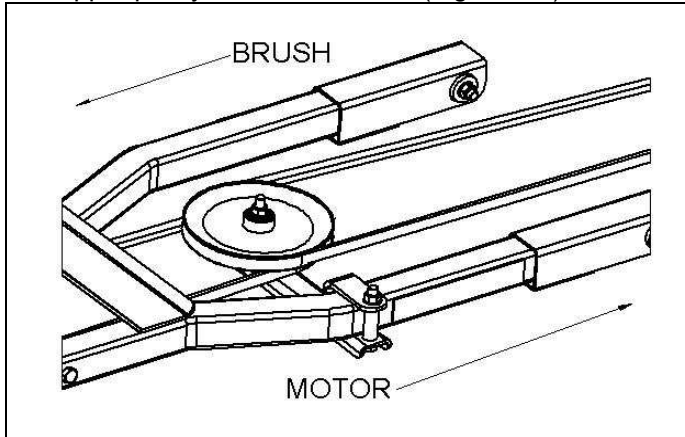

Figure 3-1
2. Take the belt, slide over pulley on broom and the upper pulley on the Interframe (Figure 3-1).